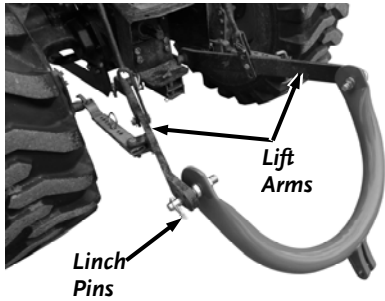

Figure 6
2. Attach the A-Frame to the Tractor Lift Arms and secure it using two Linch Pins (**Figure 6**).